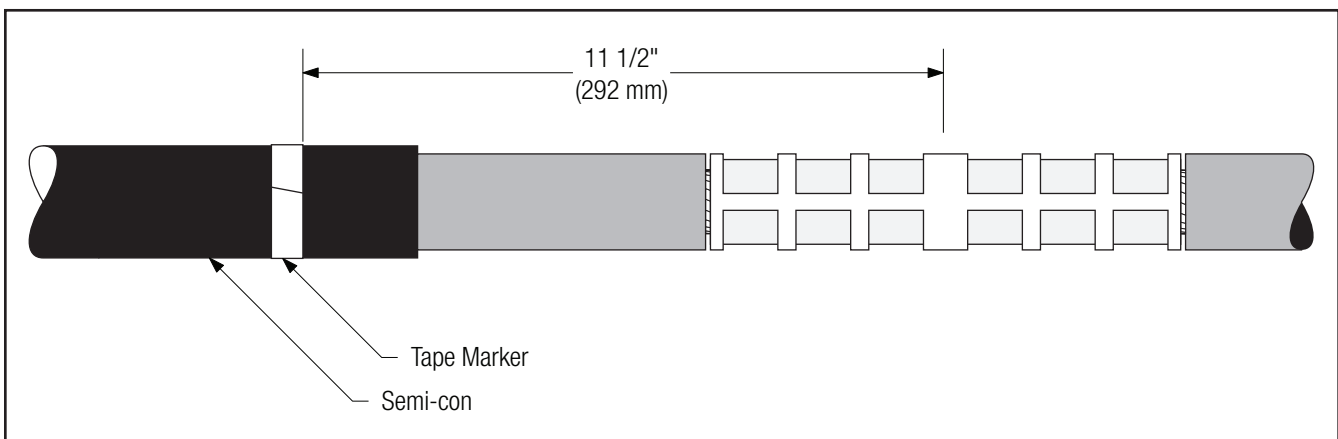

Figure 9
- 4.1 Apply a tape marker to semi-con insulation shield on cable which does not contain splice. Measure 11 1/2" (292 mm) from center of connector (Figure 9).